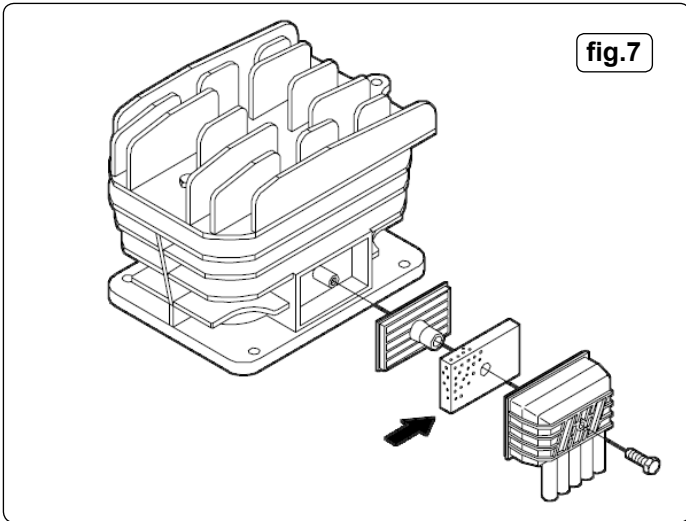

fig.7
- a) Remove the air filter element (fig.7). Using stored air from the compressor's tank, clean the filter with compressed air. (Wear eye protection and **DO NOT** direct air towards the body or hands). **DO NOT** operate the compressor without the filter as foreign bodies or dust could seriously damage the pump. Replace the filter element and air filter housing.
- b) Replace air filter. (See fig.7)